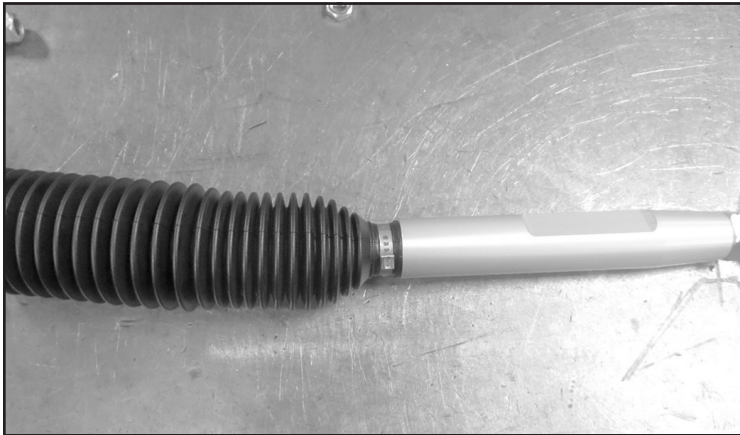

FIGURE 6 - STEP 6
6. Install FT31024 (Steering Boot) onto FT31023 (Driver tie rod center). Secure with the supplied 1.25" clamp. **SEE FIGURE 6**